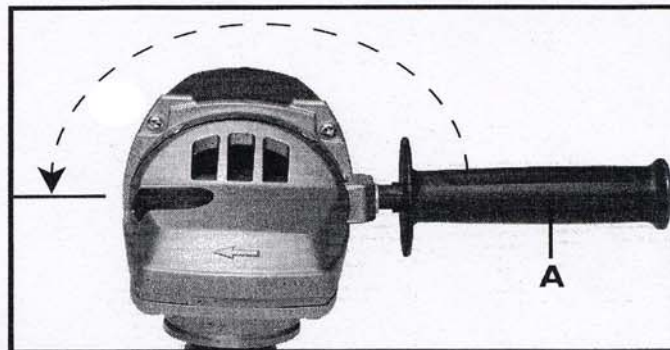

Fig. 1A
An auxiliary handle (A), Fig. 1A, is furnished with your machine. This handle can be positioned in several locations within the arc shown in Fig. 1A. This handle **SHOULD BE USED AT ALL TIMES** to maintain complete control of the machine.
1. Insert threaded end of handle into handle clamp (A) Fig. 1A.